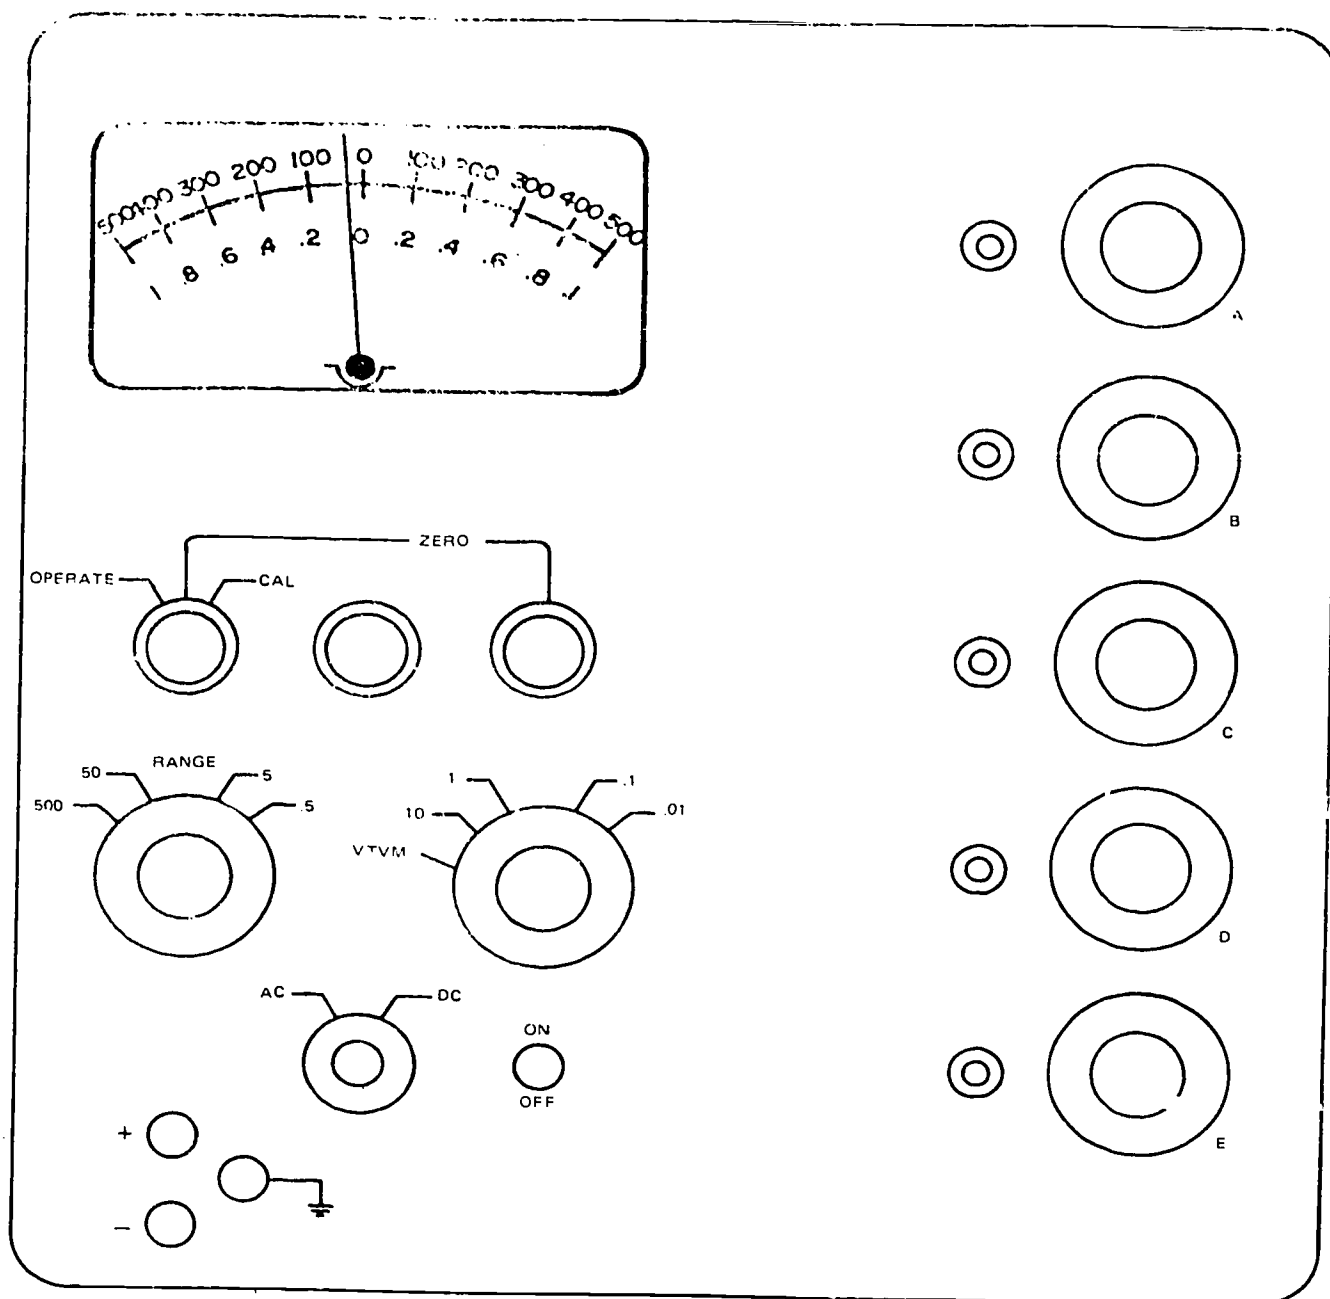

Figure 3-16. Differential voltmeter.
Figure 3-16 is an illustration of the layout for a common differential voltmeter. The range control is effective only when the null control is in the VTVM position. At this time, the range dial indicates the voltage needed at the input terminals to deflect the indicator full to one side of the scale from the center. When the null control is in any of the numbered positions, the range control has no effect. The numbers on the null control indicate the full range of the meter indication about the value indicated by the voltage readout dials. Assume the null is in the 10 position, the readout dials indicate 24,368 volts, and the needle rests halfway between the center and the edge. The dial readings are now 5 volts away from the actual input voltage.
Measurement of high resistance. One of the important features of the voltmeter (as shown earlier in fig. 3-16) is its ability to be used as a megohmmeter for rapidly measuring high resistance from 1 megohm to 250,000 megohms. The following equation may be used to compute the resistance in megohms of an unknown connected to the input terminals:
1. What principle does the voltmeter in figure 3-16 operate on when used as a DC differential voltmeter?